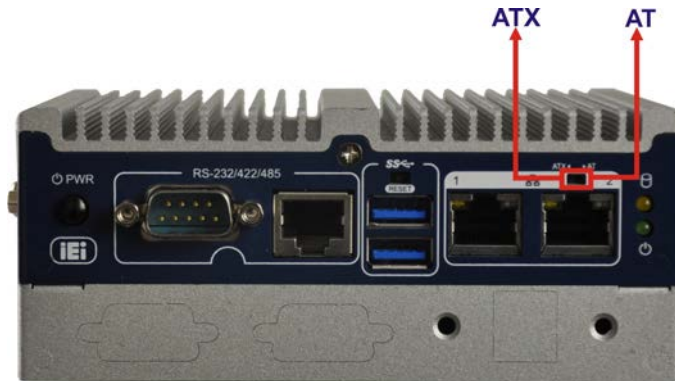

Figure 3-15: AT/ATX Switch Location
AT or ATX power mode can be used on the ITG-100-AL. The selection is made through an AT/ATX switch located on the front panel (Figure 3-15). To select AT mode or ATX mode, follow the steps below.
Step 1: Locate the AT/ATX switch on the front panel (Figure 3-15).